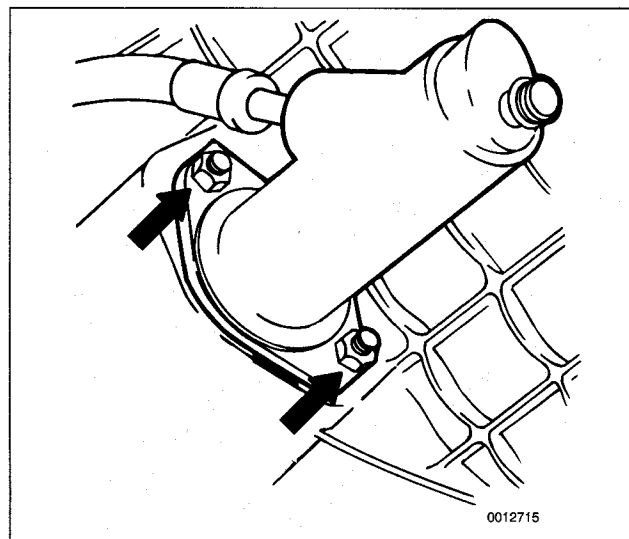

Fig. 4. Clutch slave cylinder mounting bolts (arrows).
3. Unbolt slave cylinder from transmission. See Fig. 4.